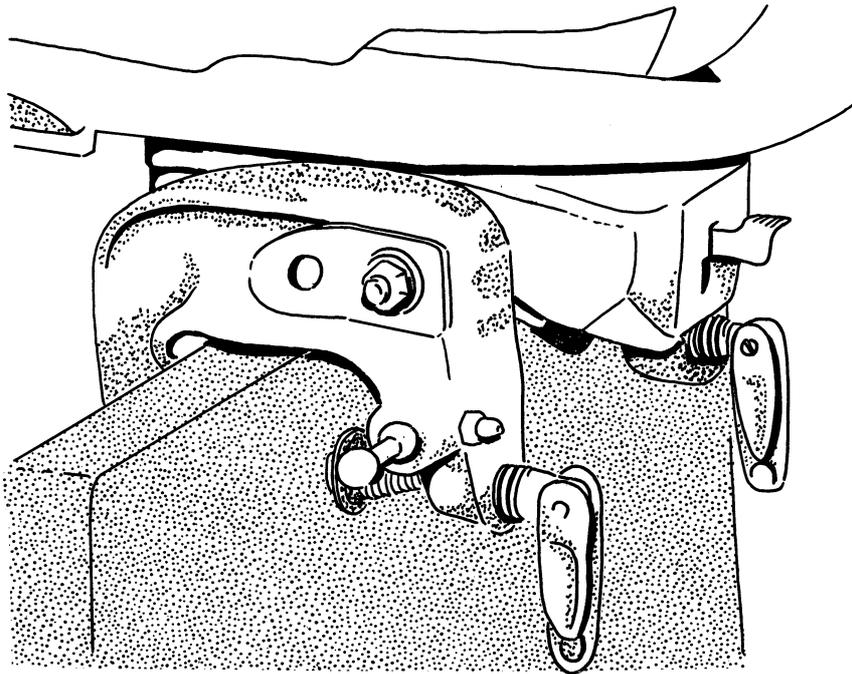

Figure 7:6—Motor Mounted and Clamped to Transom
- 7.16** Lift the motor on to the transom and align the leg of the motor with the keel of the boat. Tighten the clamp screws and check regularly. (See Figure 7:6).